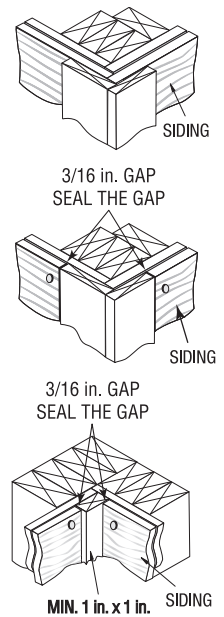

Figure 3
- When butting siding to inside or outside corners, use a minimum 1 in. thick dry wood material (see Fig. 3).